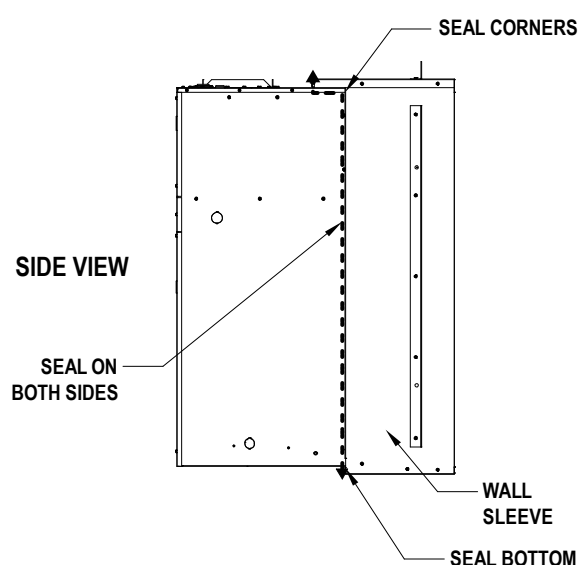

FIGURE 14 – Wall Sleeve Seal
2. Attach the bracket to the FIRST-PAK unit and the wall sleeve using the screws supplied with the wall sleeve. Refer to **FIGURE 14** – below.
7. Inspect the sleeve seal, which is supplied with the sleeve, to ensure that it is properly secured and aligned (see **FIGURE 14 – Wall Sleeve Seal**).